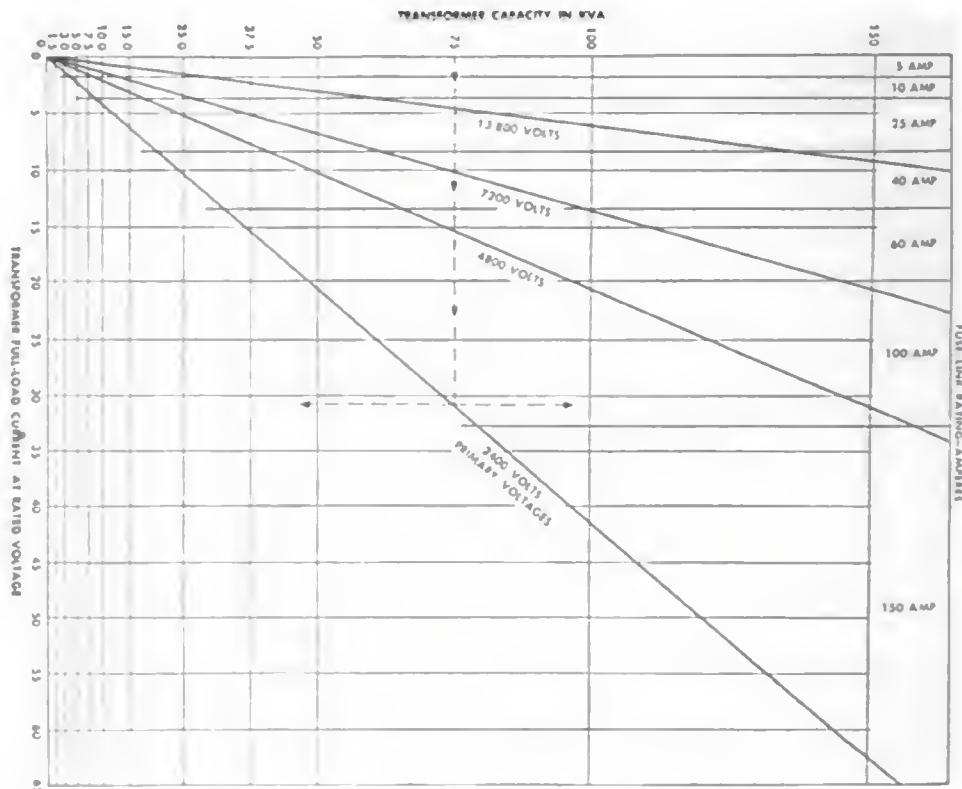

Figure 7-3.—Fuse sizes for single-phase installations.
The rating (size) of the fuse link used in the primary cutout is also important. If you choose a fuse size that is too small, needless outages will occur. The chart in figure 7-3 will help you pick the correct fuse size. As an example, suppose you have installed a single-phase 75 kv.-a. transformer that operates from a 2,400 volt primary. Using the chart, first find the transformer capacity (75) on the ordinate. Then proceed horizontally until you intersect the primary voltage line (2,400 volts). The point of intersection lies in the 100-ampere fuse-link area. Therefore, for this particular installation you would use a 100-ampere fuse.